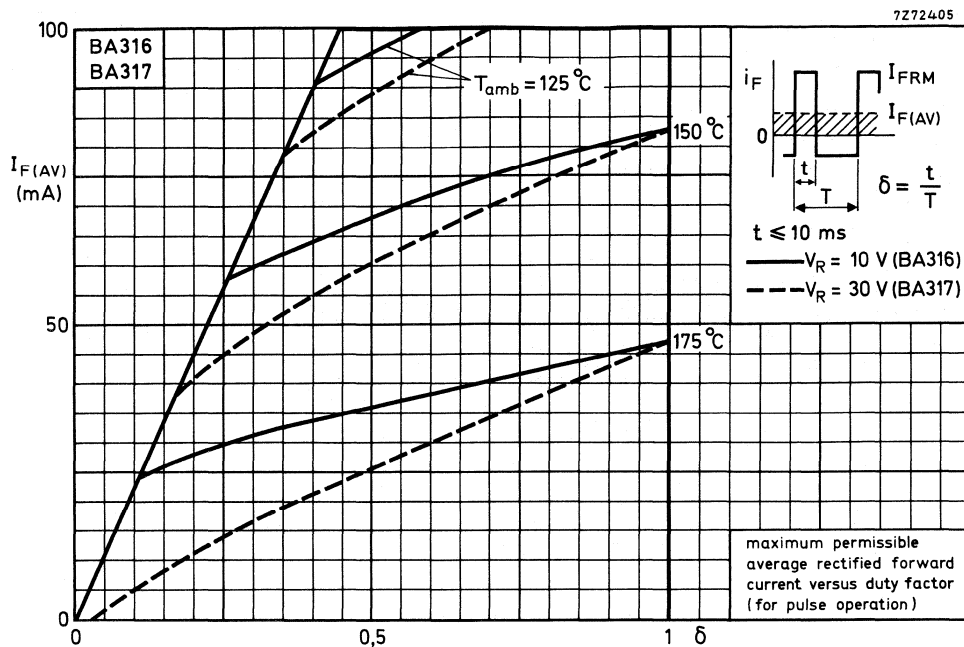
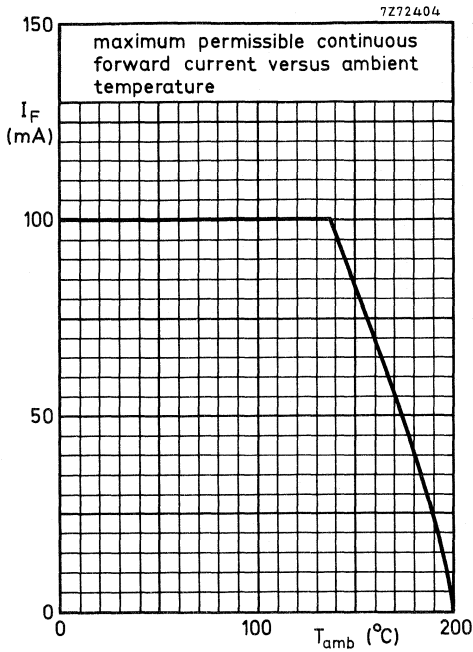

Fig. 3.
Fig. 7.
1) For pulse operation see Figs 3 to 6. For sinusoidal operation see Figs 7 to 10.